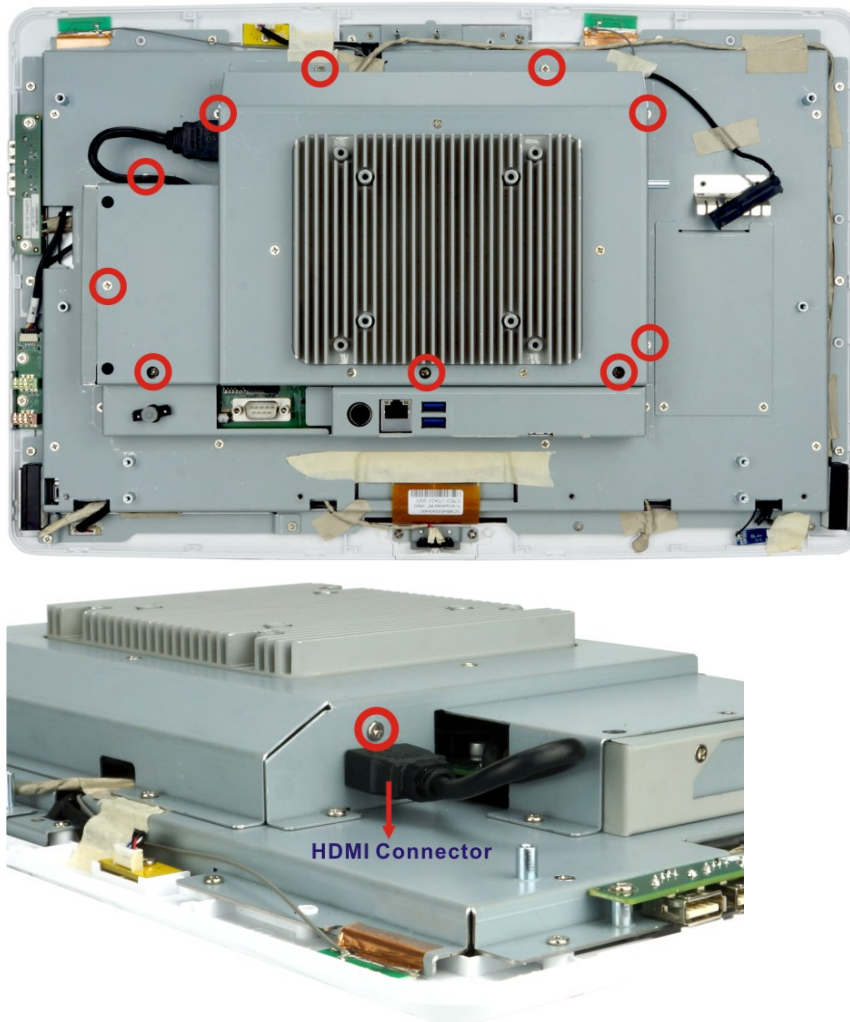

Figure 6-4: Aluminum Cover Retention Screws
Step 6: Remove the 11 retention screws from the internal aluminum cover and disconnect the HDMI connector (**Figure 6-4**).